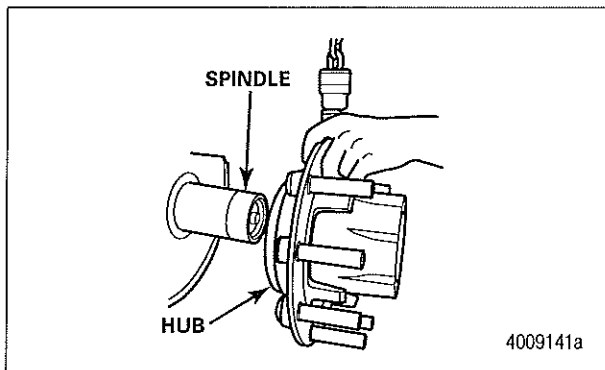

Figure 21
5. Support the hub using an appropriate method. Align and install the hub onto the spindle. The hub must be supported correctly or damage to the spindle threads or seal can occur. Figure 21.